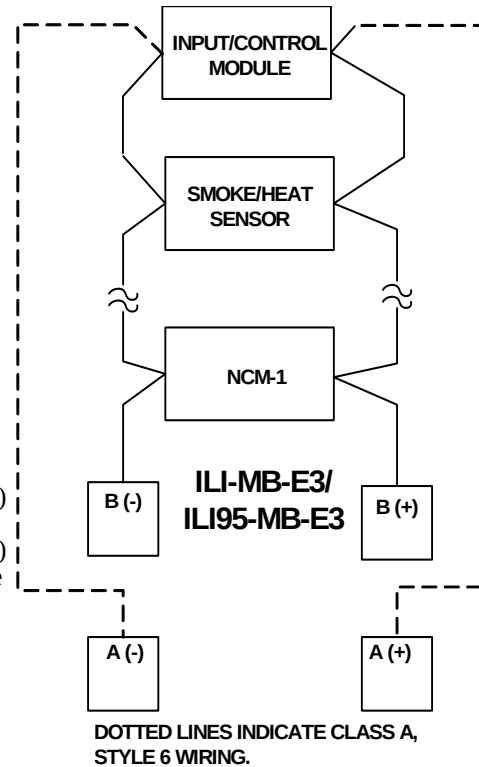

Figure 3.1.3.1 Signaling Line Circuits
The ILI-MB-E3 or ILI95-MB-E3 provides two (2), 24 VDC Class A, Style 6, 7 or Class B, Style 4 signaling line circuits. See Figure 3.1.3.1 for wiring information. Style 7 wiring requires the use of an M500X Isolator Module (ILI-MB-E3), or XP95-LI Line Isolator or XP95-LIB Line Isolator Base (ILI95-MB-E3) on both sides of a device.